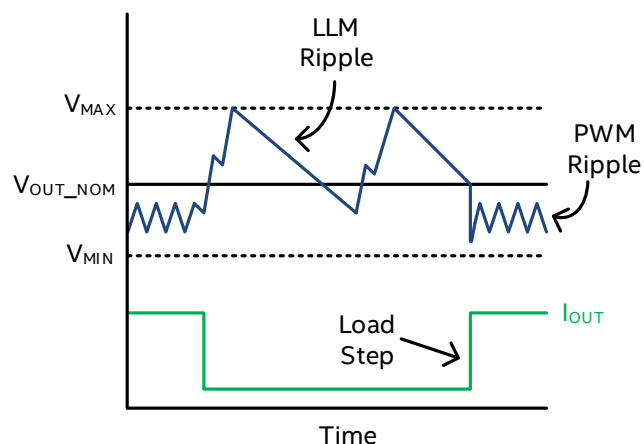

Figure 5: Light Load Mode Operation Illustration
- (1) Step  $V_{OUT}$  up by approximately 1.0% above the nominal operating output voltage setting,  $V_{NOM}$  and as low as -0.5% below  $V_{NOM}$ , and then
- (2) Shut down unnecessary circuitry, and then
- (3) Monitor  $V_{OUT}$
When  $V_{OUT}$  falls below  $V_{NOM}$ , the device will repeat (1), (2), and (3). The voltage step-up, or pre-positioning, improves transient droop when a load transient causes a transition from LLM mode to PWM mode. If a load transient occurs, causing  $V_{OUT}$  to fall below the threshold  $V_{MIN}$ , the device will exit LLM operation and begin normal PWM operation. Figure 5 demonstrates  $V_{OUT}$  behavior during the transition into and out of LLM operation.